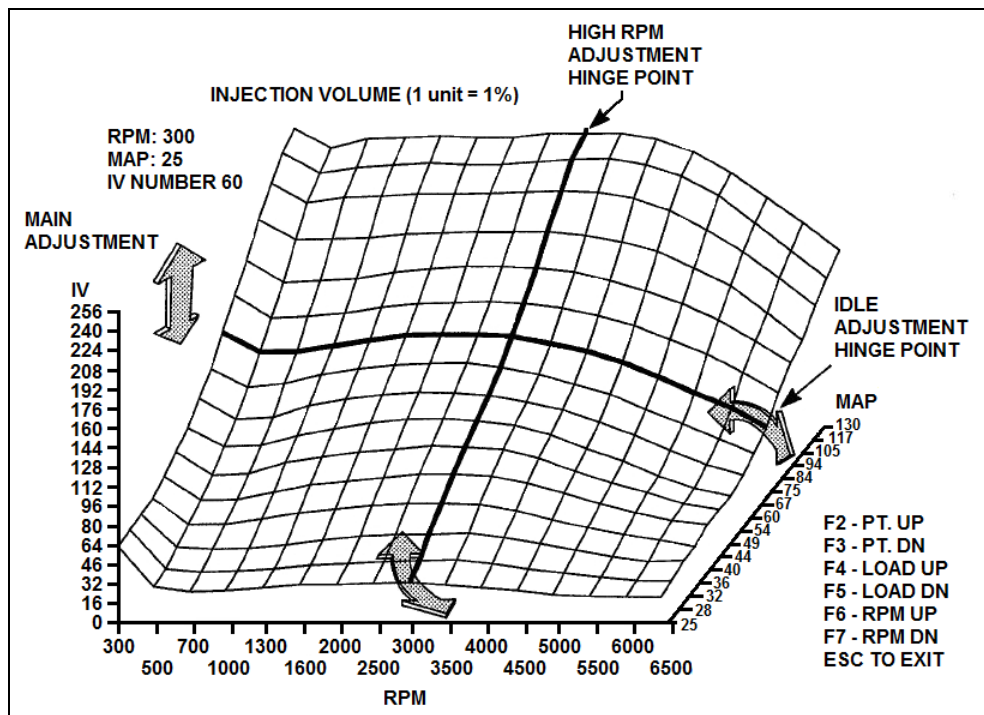

Figure 18: Fuel Map Areas of Adjustment
In addition to the information provided to the ECU by the various sensors, the user is also able to adjust the fuel delivery through the use of the five adjustment knobs on the front of the ECU. Each of the adjustment knobs is factory set in a null ("0") position. The user is able to adjust fuel delivery for **(1) Idle**, **(2) Main**, **(3) High RPM**, **(4) Accelerator Pump**, and **(5) Choke** settings. A detailed description of each adjustment is given below. Refer to Figure 18 during the discussion of each of the adjustments.
The idle adjustment knob allows the user to adjust the fuel delivery in the idle region of the fuel map 30% above or below the values that are set at the factory. This is accomplished by moving the lower part of the fuel map either up or down along a hinged horizontal line as indicated in Figure 18. Adjustments to the idle region of the fuel map are made **AFTER** the MAIN adjustment knob has been properly adjusted. Turning the knob clockwise increases the fuel delivery, while a counter-clockwise rotation decreases the amount of fuel delivered to the engine during idle.
The HIGH RPM adjustment knob allows the user to adjust the fuel delivery for engine speeds over 3000 rpm 50% above or below the values that are set at the factory. This is accomplished by moving the fuel map either up or down along a diagonal hinged line as indicated in Figure 18. Turning the adjustment knob clockwise increases the fuel delivery, while a counter-clockwise rotation decreases the amount of fuel delivered to the engine at high engine speeds.